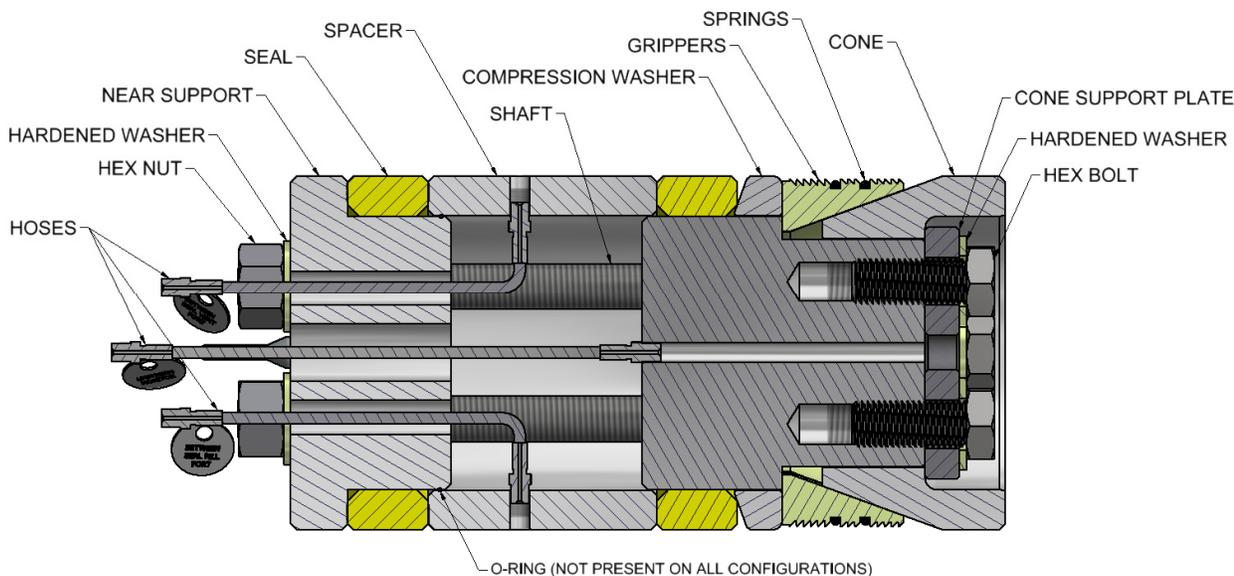

Figure 7: GripTight Isolation Plug 8" Plug Components
4.9. Place the new Gripper Assembly over the Far Support Assembly as shown in Figure 7. Replace the Cone Retaining Plate, Hardened Washers, and Hex Bolts.